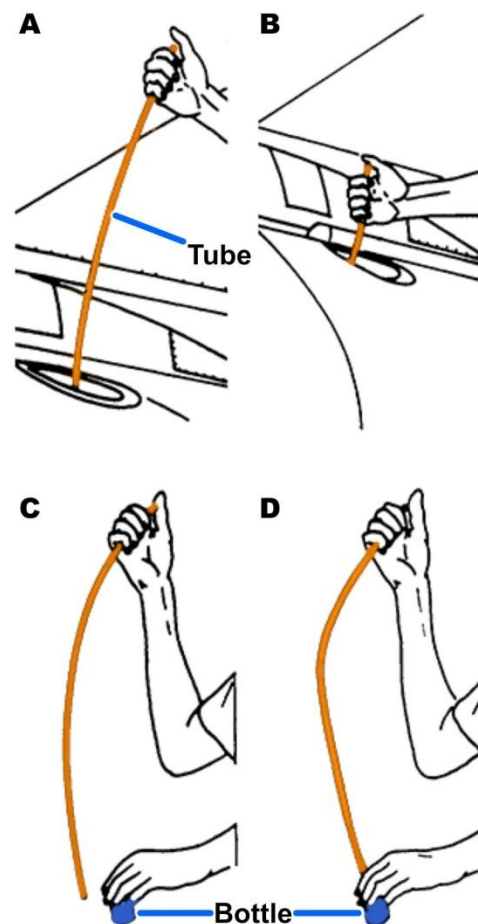

Figure 5-17 — Dip tube oil sampling.
2. Use a sampling tube of the correct length. Hold the tube at one end and lower it into the tank through the filler neck until only the upper end protrudes (*Figure 5-17, views A and B*).
3. Allow the lower end of the tube to fill with oil, and then close the upper end with your thumb or finger. Withdraw the tube and drain the trapped oil into the sample bottle. (*Figure 5-17, views C and D*). Repeat this operation until the bottle has been filled to about one-half inch from the top.